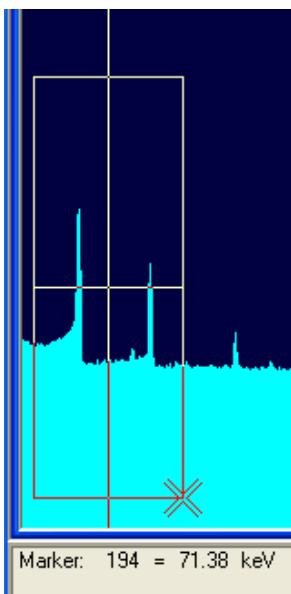

Figure 51. Rubber Rectangle Crosshair.
- Drag the mouse diagonally across the area of interest. As you drag, the mouse will be drawing a reverse-color rectangle bisected by the marker line to form a “crosshair” (Fig. 51). This makes it easy to select the center channel in the area of interest — for instance, the center of an ROI you wish to mark or unmark, a portion of the spectrum to be summed, or a peak for which you want detailed information.